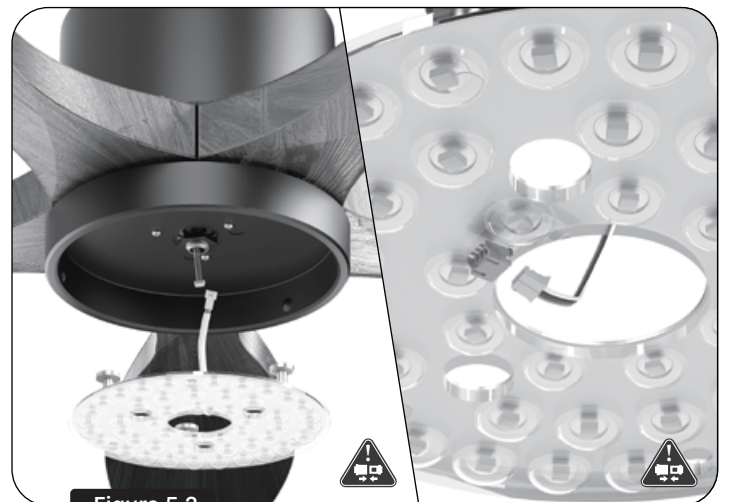

Figure 5.2
5.2 Plug the connector from the motor bottom into the LED light source. Directly attach the LED light source to the fitter plate as they have magnets for each other (make sure their centers are aligned). Choose one of the situations in Figure 5.2 that is the actual situation for you.